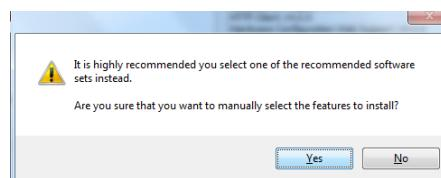

Figure 24: NI MAX - NI Veristand Engine installation 1
3. Ignore the warning, See Figure 24